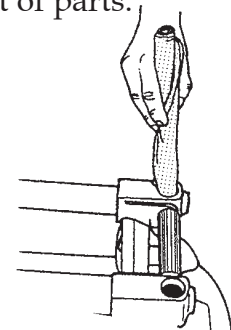

Figure SM-2
3. After you apply wax to the mounting holes in the head rest (left) and base arm (right), wrap a rag around a scrap of wood and buff out the wax thoroughly. See Figure SM-2.